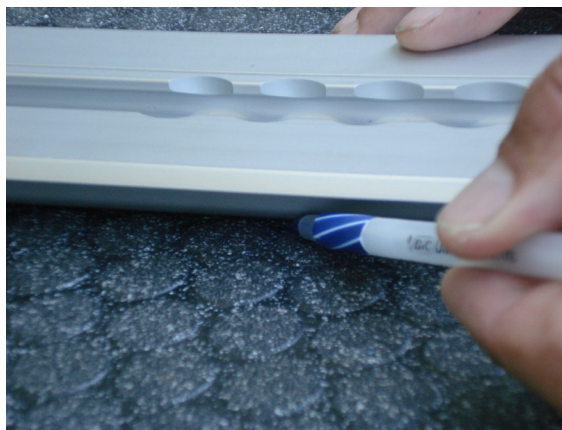

Figure 9
4. Securely hold the floor plate in place. Using the floor plate as a template, trace the inset edge of the floor plate and end caps onto the vehicle patient compartment floor as shown in Figure 9.